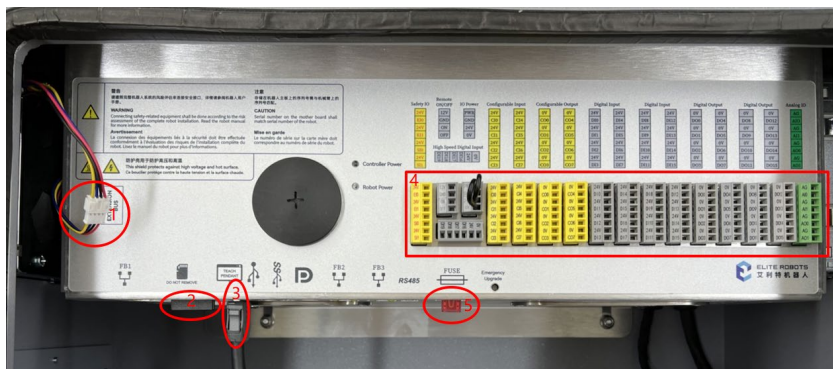

Figure 3-33 Wiring, patch cords, cards and fuses and IO plugs
- Plug in the cable of the fan, plug in the teach pendant cable, plug in the flash card, fuse and IO plug, as shown in Figure 3-33: